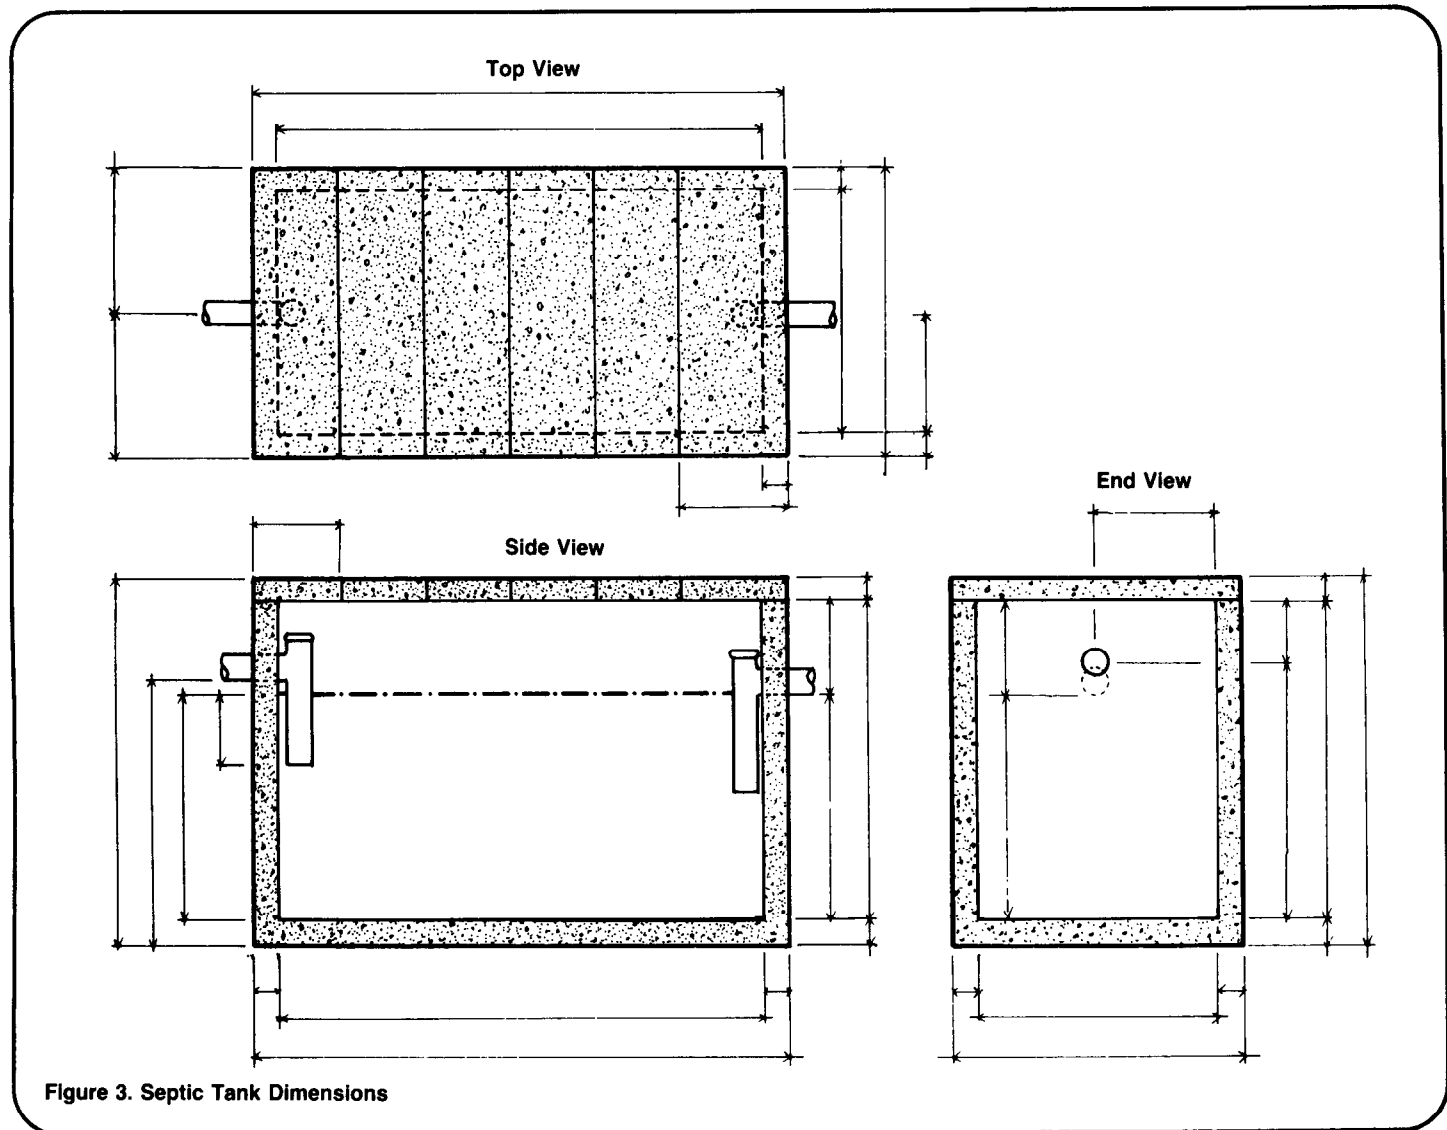

Figure 3. Septic Tank Dimensions
2. A plan view of the septic tank similar to Figure 3. The diagram shows the top, side, and end views of the tank with their dimensions. The septic tank should be built according to the specifications shown in the diagram.